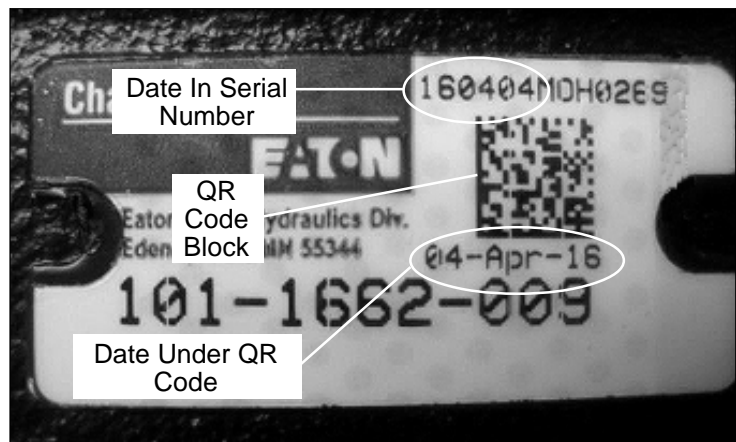

Figure 4 — Placard And Date Locations
- Locate the manufacturing date code of the motor (refer to Figure 4). The code is on a metal placard on the bottom of the motor facing the ground.